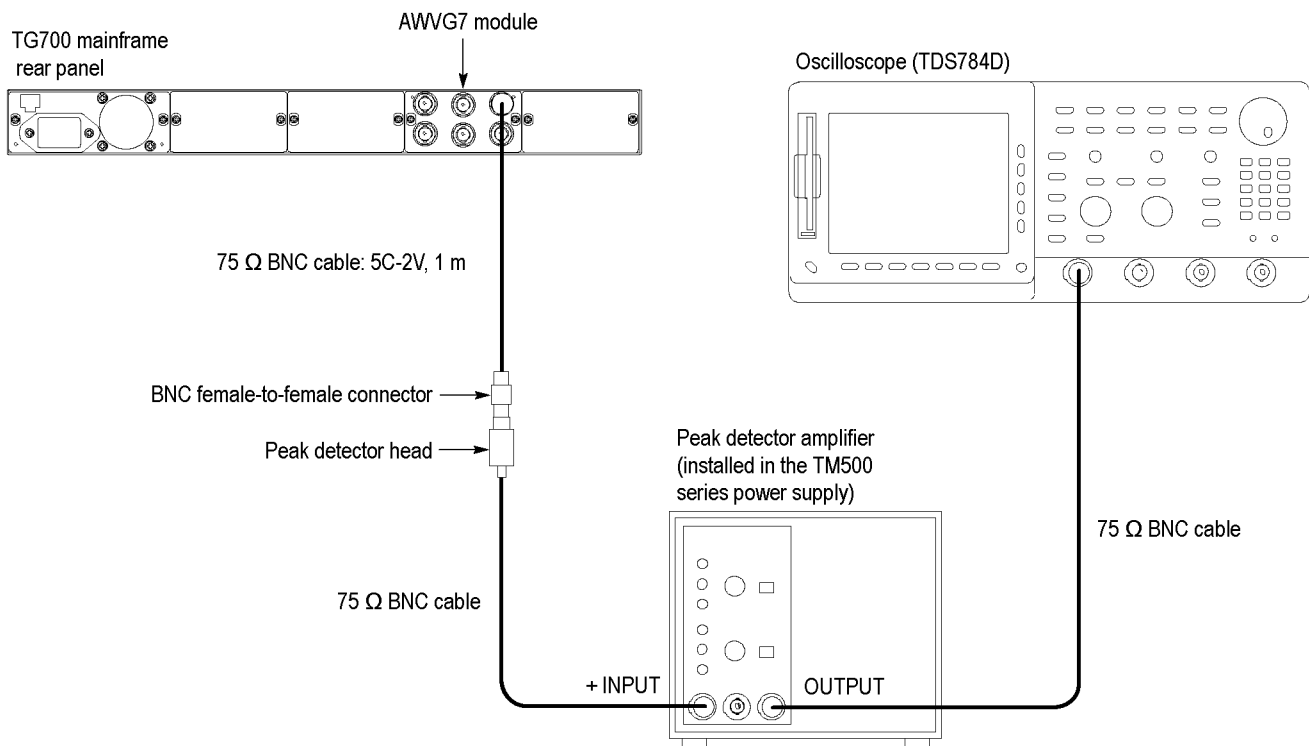

Figure 21: Equipment connection for verifying the frequency response
2. Use the 75 Ω BNC cable to connect the OUTPUT connector on the peak detector amplifier to the CH 1 input connector on the oscilloscope as shown in the following figure. (See Figure 21.)